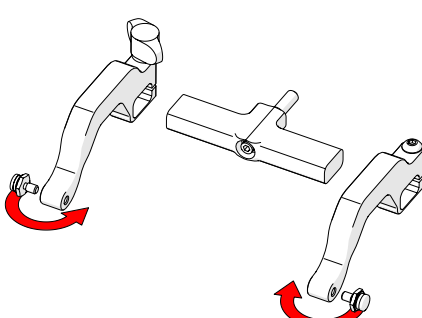

Fig. 183 - Position pivot buttons
5. Position the pivot buttons to the inside of the probe holder arms (Fig. 183).